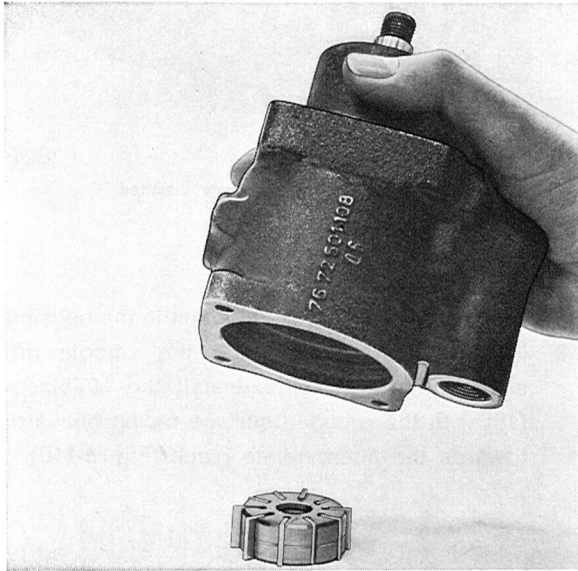

Fig. 6-105. Removing rotor
2. Remove the circlip (20).
3. Remove the cover (19), spring (22) and plate (18).
4. Shake out the intermediate piece (16) and rotor (25), see Fig. 6-105. If it is not easy to remove the intermediate piece, allow it remain until later on.